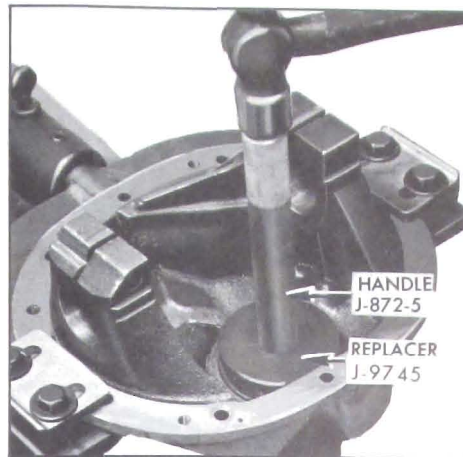

Fig. 6-69—Installing Pinion Bearing Outer Race
2. Drive rear pinion bearing outer race against shoulder in carrier using Replacer J-9745 with driver handle. See Figure 6-69.